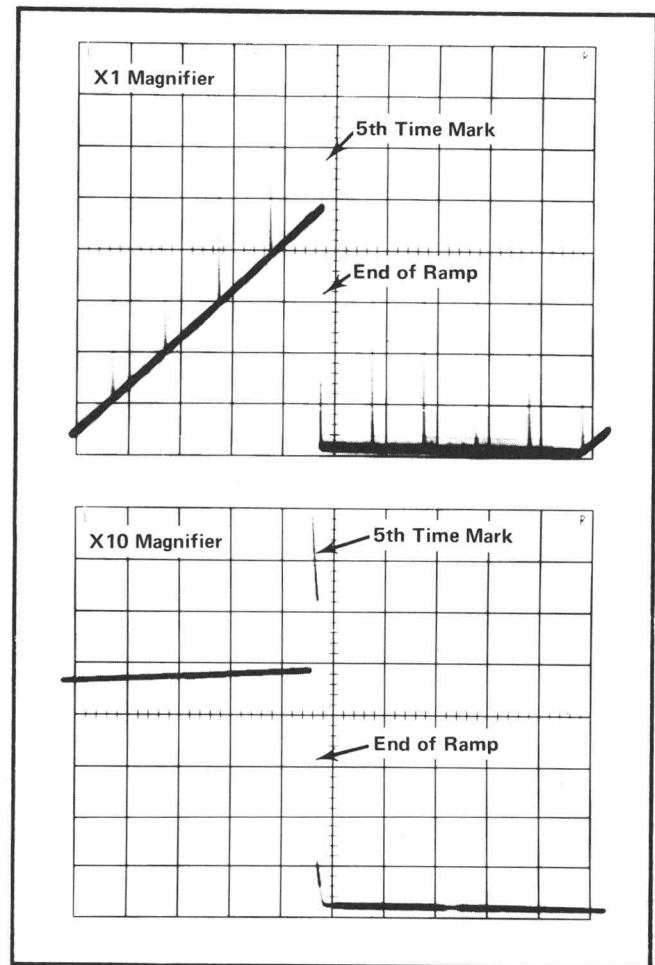

Fig. 5-2. Typical display of ramp and time marks for step 15.
- Display ramp and markers as shown in Fig. 5-2.